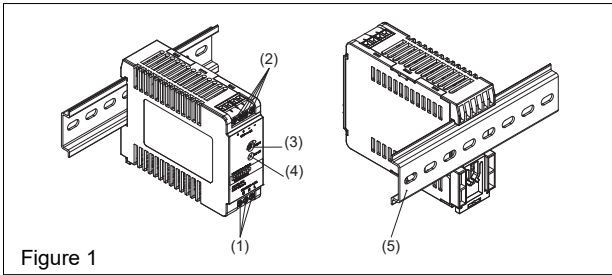
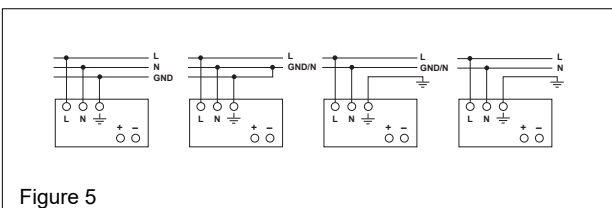

Figure 1
Figure 5
## 2. Device description (Fig. 1)
### 5.1. Input connection (Fig. 1, Fig. 5)
Use L, N and GND connections of input terminal connector (see Fig. 1 (1)) to establish the 100-240 VAC connection. Typical connection methods are shown in Figure 5.
### 5.2. Output connection (Fig. 1 (2))
Use the "+" and "-" screw connections to establish the 12 VDC connection. The output provides 12 VDC. The output voltage can be adjusted from 12 to 15 VDC on the potentiometer. The green LED DC OK displays correct function of the output (Fig. 1 (4)). The device has a short circuit and overload protection and an overvoltage protection limited to 16-18.7 VDC.